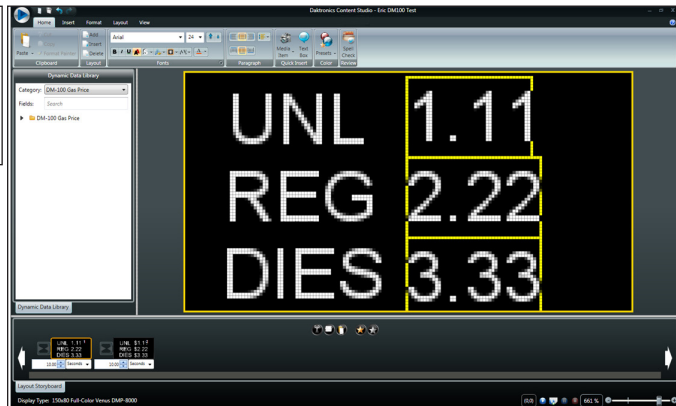

Figure 12: Petroleum Prices on Layout
16. Place the fields for petroleum prices and their headings in the appropriate position in the layout, as shown in **Figure 12**.